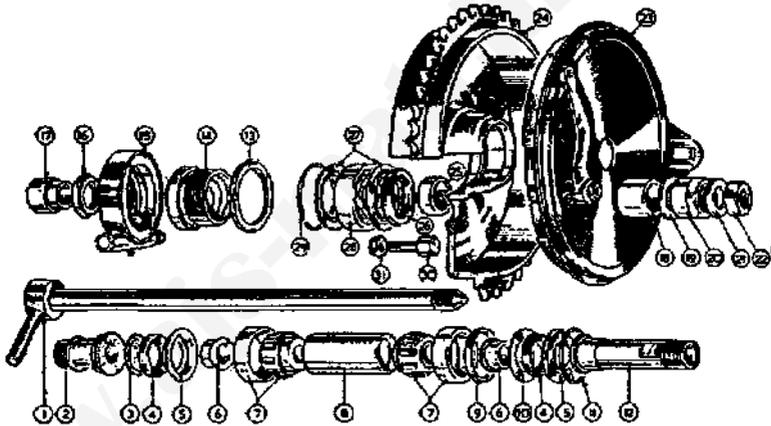

FIG. 39.—EXPLODED VIEW OF THE REAR WHEEL BEARING AND BRAKE DRUM FITTED TO 1955 MODELS.
Brake drum runs on a ball-bearing separate from hub bearings. Method of bearing retention and assembly order can be seen in Fig. 39. To dismantle, after removing rear wheel, disconnect rear chain, take off nut and washer for dummy spindle (12), cock brake to the right to clear anchor-plate stud, remove the assembly complete. After removing the circlip, the bearing and the oil seal, etc., can be pressed out. Before reassembly, lubricate the bearing with anti-centrifuge grease sparingly.
With the wheel in position, slacken the speedometer-gearbox fixing nut, disconnect the speedometer-drive cable and remove the wheel as previously described. Remove the speedometer-gearbox fixing nut, and take off nut (16) (Fig. 39) to remove speedometer gearbox, adjust the bearings as described on page 109.